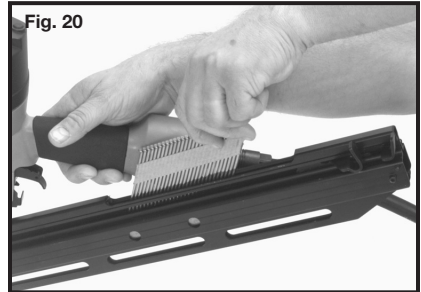

Fig. 20
3. Orient a strip of nails with points down (see Fig. 20), and drop into the magazine. Slide fasteners forward to the front of the magazine. The magazine will hold two full strips of fasteners.